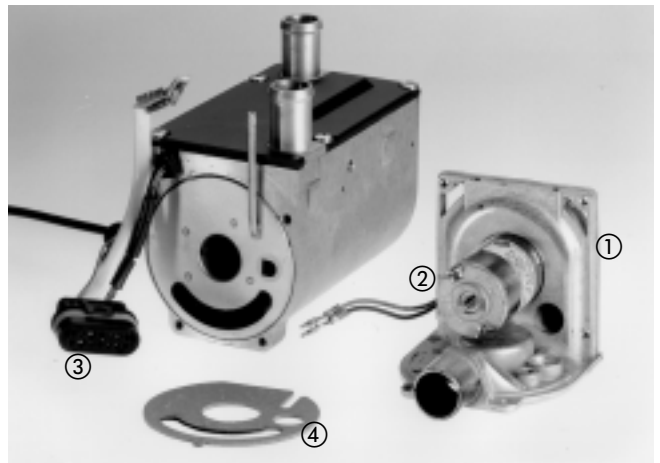

Fig. 6
① Electric motor
② Black-and-white plastic disk
**Removing the combustion air blower** (see Fig. 6)